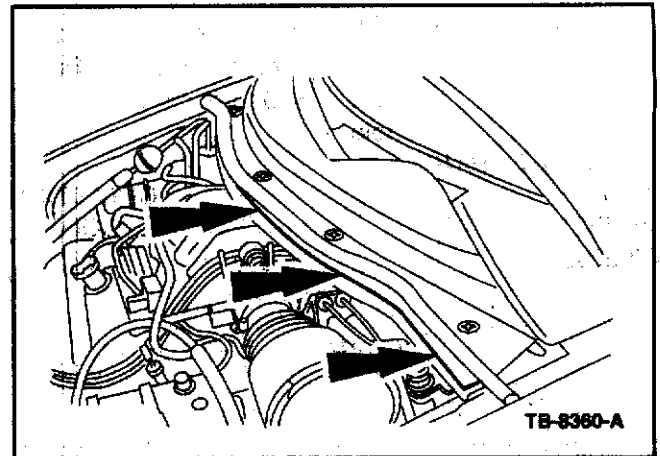

Figure 15 - Article 06-14-10
20. Add Clear Silicone Rubber to the front seam between the upper and lower cowl in the area above the transaxle. (Figure 15)